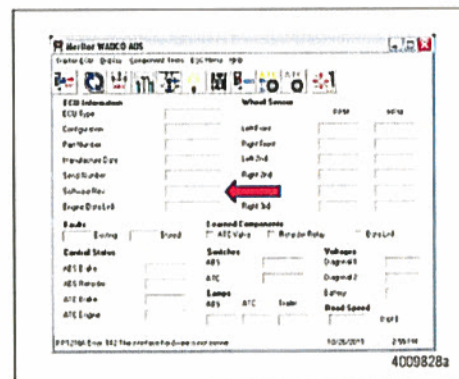

Figure 2
3. In the main ABS ECU screen, locate the field for the ECU software version. Figure 2.